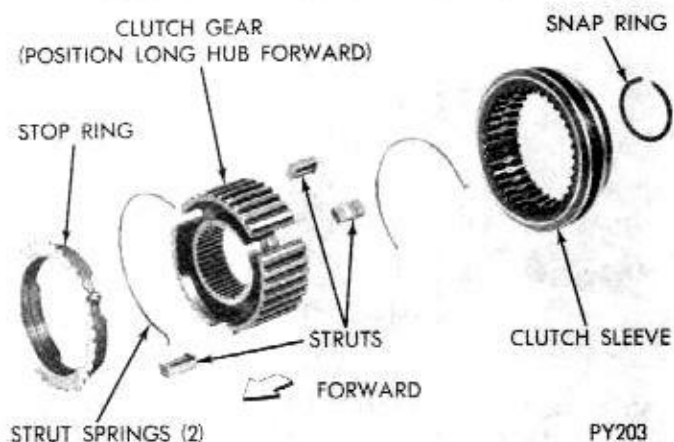

Fig. 28—1st-Reverse Synchronizer—Disassembled
(13) Sub assemble the synchronizer parts in the order shown in (Figs. 28, 29 and 30) as follows: Place a stop ring flat on the bench followed by the clutch gear and sleeve. Drop the struts in their slots and snap in a strut spring placing the tang inside one strut. Turn the assembly over on the stop ring and install second strut spring with tang in a different strut.